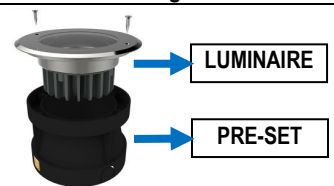

Fig.3
5. Separate the pre-set. Loose two cross screws and remove the pre-set. (Fig.3)